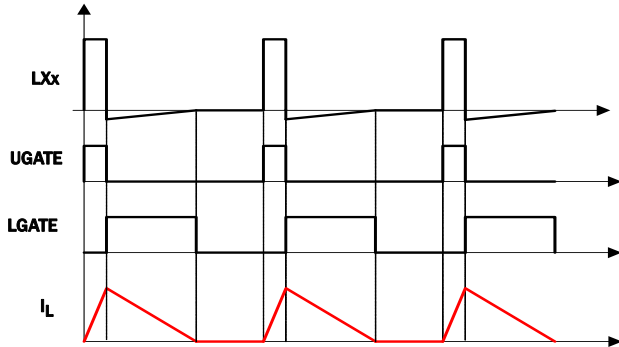

FIGURE 43. DIODE EMULATION
Diode Emulation (DE) allows for higher converter efficiency under light load situations. In DE mode, the low-side MOSFET conducts when the current is flowing from source to drain and does not allow reverse current, emulating a diode. As shown in Figure 43, when the LGATE signal is HIGH, the low-side MOSFET carries current, creating negative voltage on the phase node due to the voltage drop across the ON-resistance. When the DE pin is pulled HIGH, the ISL70003SEH will be in diode emulation mode and detect the zero current crossing of the inductor current and turn off the lower MOSFET to prevent the inductor current from reversing direction and creating unnecessary power loss. This ensures that discontinuous conduction mode (DCM) is achieved. Since diode emulation prevents the low-side MOSFET from sinking current, no negative spike at the output is generated during pre-biased startup when DE mode is active.